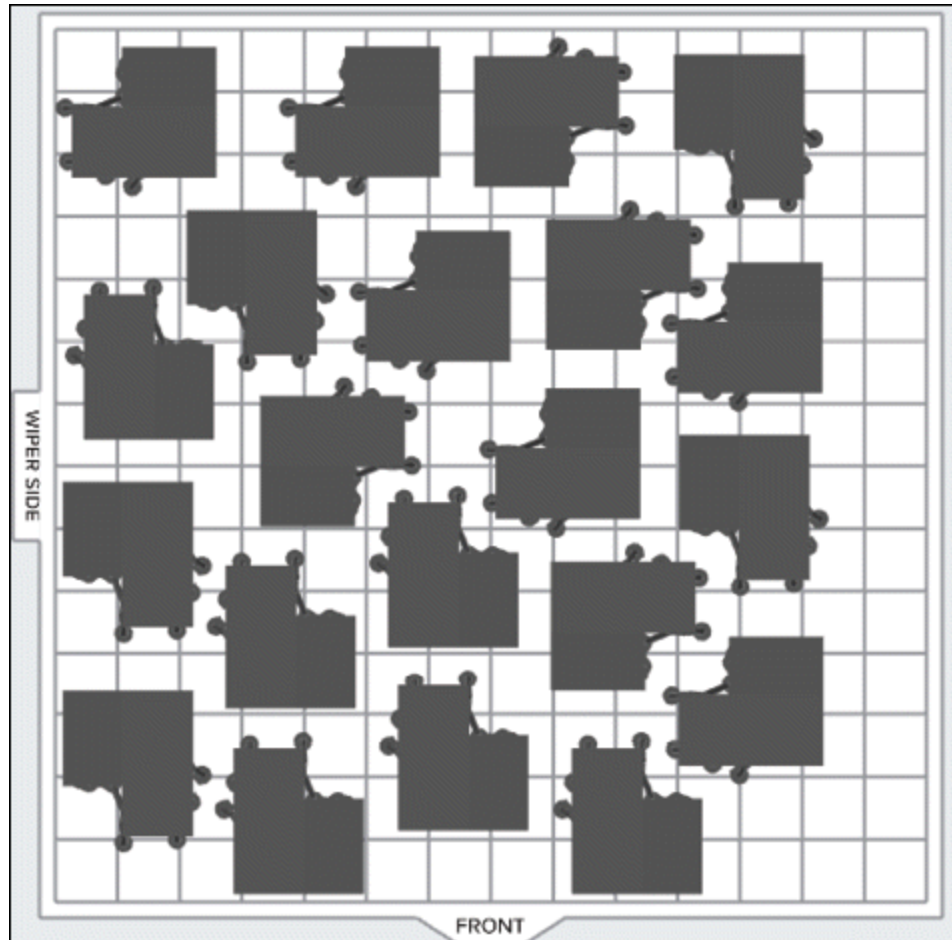

Figure-63. After using Layout All tool
- Click on the **Layout All** button to arrange the copies of model in such a way that maximum number of copies can be accommodated on the bed; refer to Figure-63. Note that after using this tool, you might be able to add more copies of the model on bed.